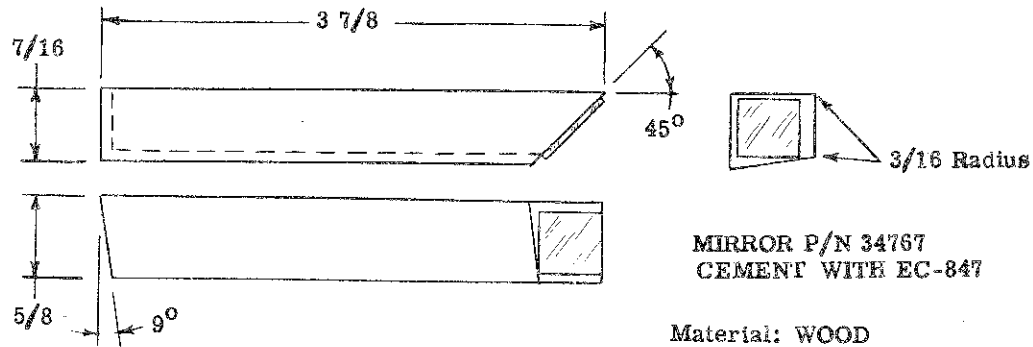

Figure 5 LAMP ALIGNING BLOCK
b. Lampaligning block (figure 5), used to simplify focusing of Rangefinder.